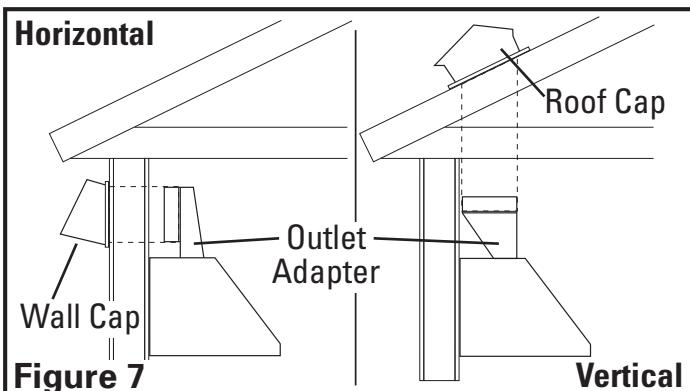

Figure 7
- Determine the type of ducting you will require (**Figure 7**).
NOTE: When the duct termination is similar to that shown in figure 7 (passing through the wall to which the hood is mounted) the installation requires special consideration. Depending upon where the wall studs are located, it may be necessary to cut one or more of the wall studs and install a header and footer to transfer the load to the adjacent studs. Additional studs may need to be framed into the opening to attach dry wall or secure the hood. If this is your situation Air King recommends that you hire a professional and comply with all applicable codes.